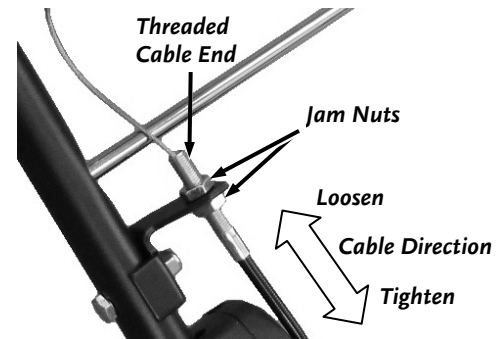

Figure 42
2. Adjust the Jam Nuts towards the end of the Cable to tighten the Belt tension or towards the sheathing of the Cable to loosen the tension of the Belt (**Figure 42**).